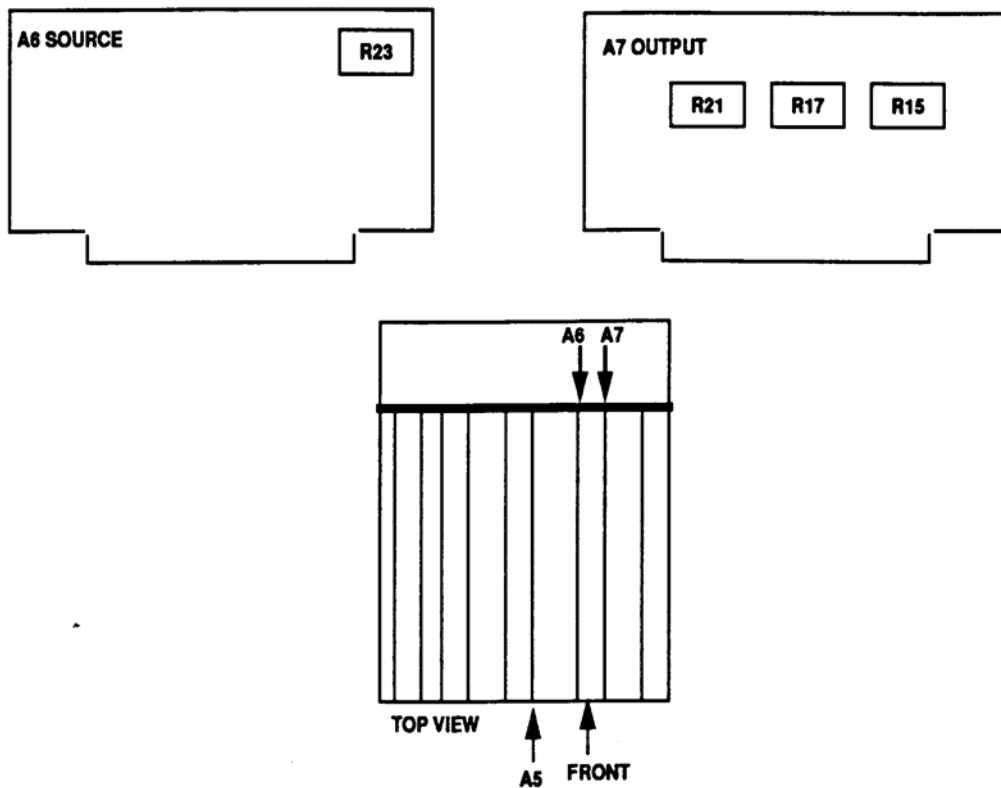

Figure 6. Output level - adjustment locations.
(1) Press keys and enter values using **DATA ENTRY** keys as listed in (a) through (f) below:
(2) Adjust A6R23 (fig. 6) for an ac measurement standard indication of 3.000 V.
(3) Enter **511 mV** using **DATA ENTRY** keys and record ac measurement standard indication.
(4) Enter **512 mV** using **DATA ENTRY** keys and adjust A7R21 (fig. 6) for a ac measurement standard indication of 1 mV greater than that recorded in (3) above (R).
(5) Enter **1.023 V** using **DATA ENTRY** keys and record ac measurement standard indication.
(6) Enter **1.024 V** using **DATA ENTRY** keys and adjust A7R17 (fig. 6) for an ac measurement standard indication of 1 mV greater than that recorded in (5) above (R).
(7) Enter **2.047 V** using **DATA ENTRY** keys and record ac measurement standard indication.
(8) Enter **2.048 V** using **DATA ENTRY** keys and adjust A7R15 (fig. 6) for an ac measurement standard indication of 1 mV greater than that recorded in (7) above (R).
(9) Enter **3.000 V** using **DATA ENTRY** keys and adjust A6R23 (fig. 6) for an ac measurement standard indication of 3.000 V (R).